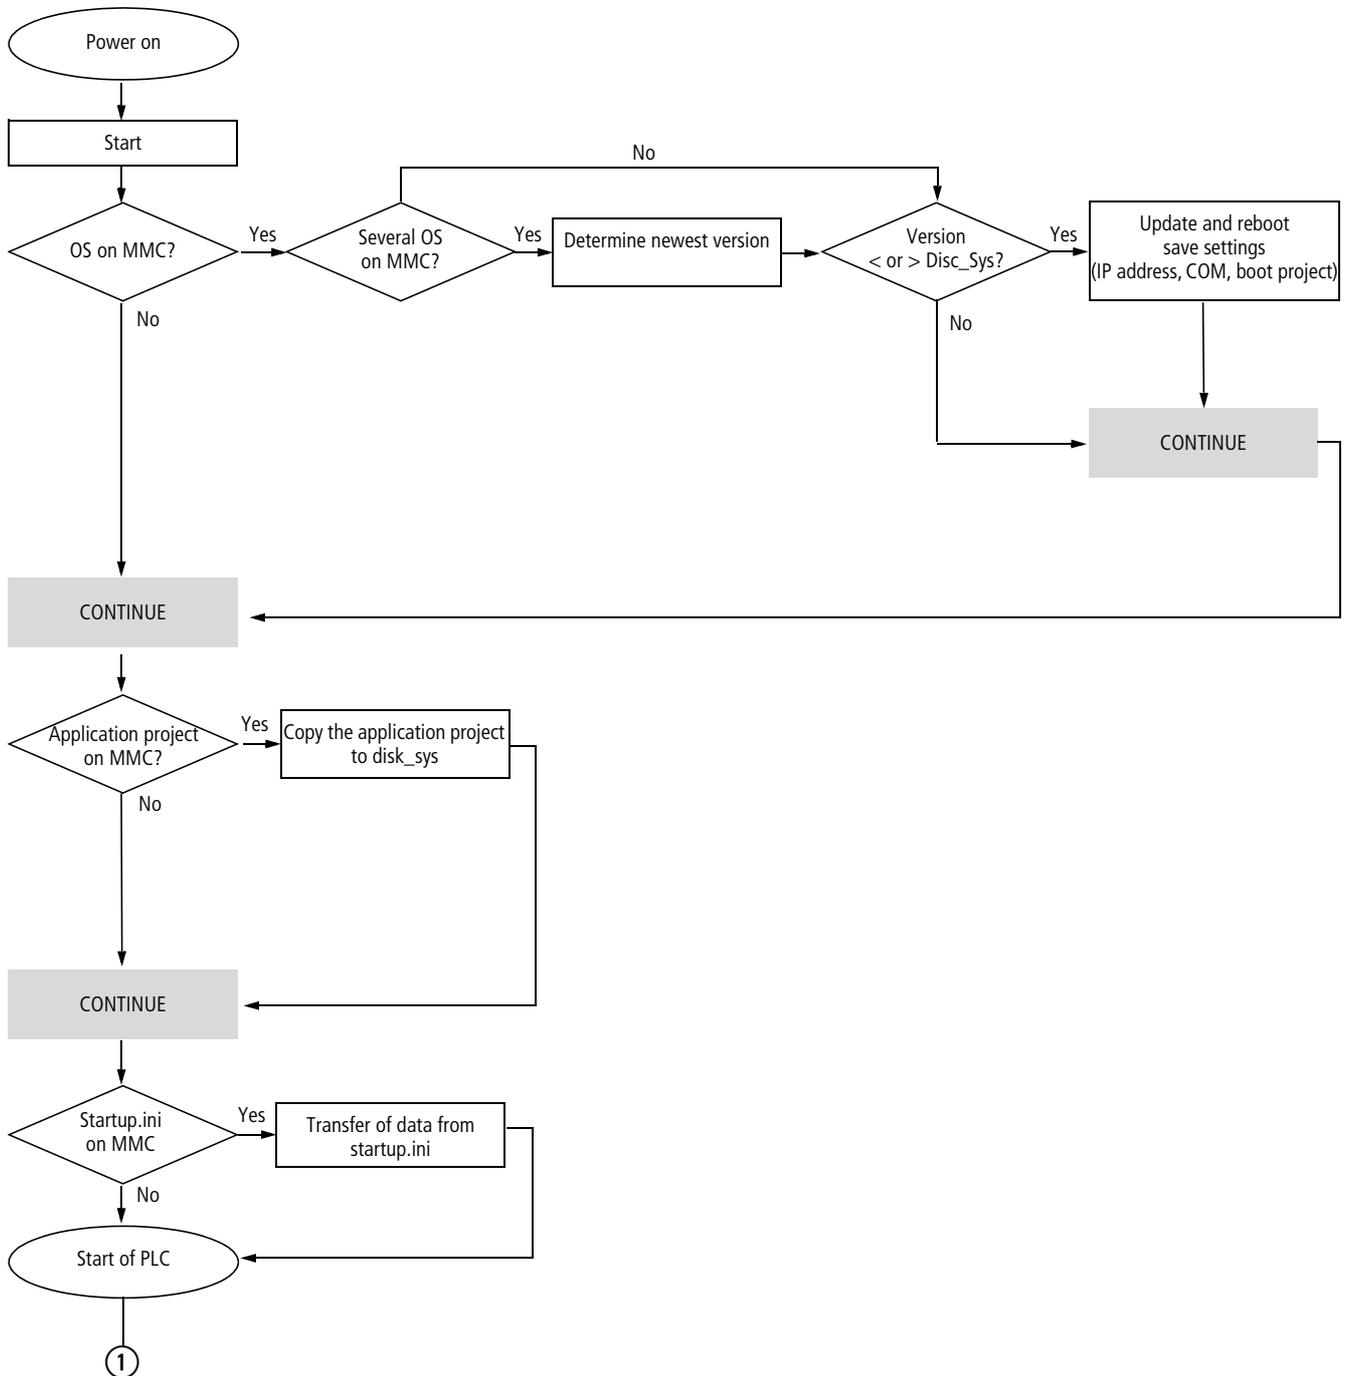

Figure 20:Boot procedure with MMC
The following flow diagrams (Fig. 20 and Fig. 21) show which program is used. The charts also show the updating of the operating system (OS) using the MMC/SD/USB.
If the consistency of the data is absolutely necessary for an application, other measures are required, such as the use of a uninterrupted power supply with battery back-up. The PLC is started as shown in Figure 20 and Figure 21.